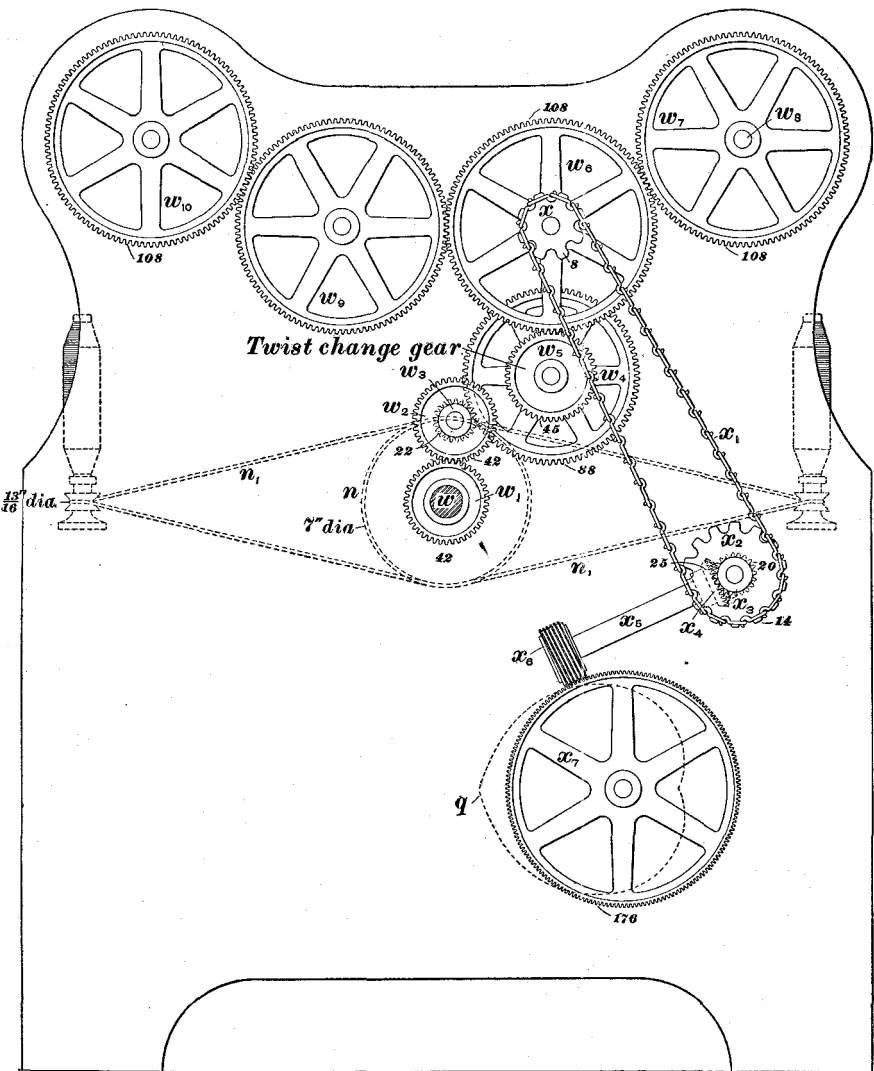
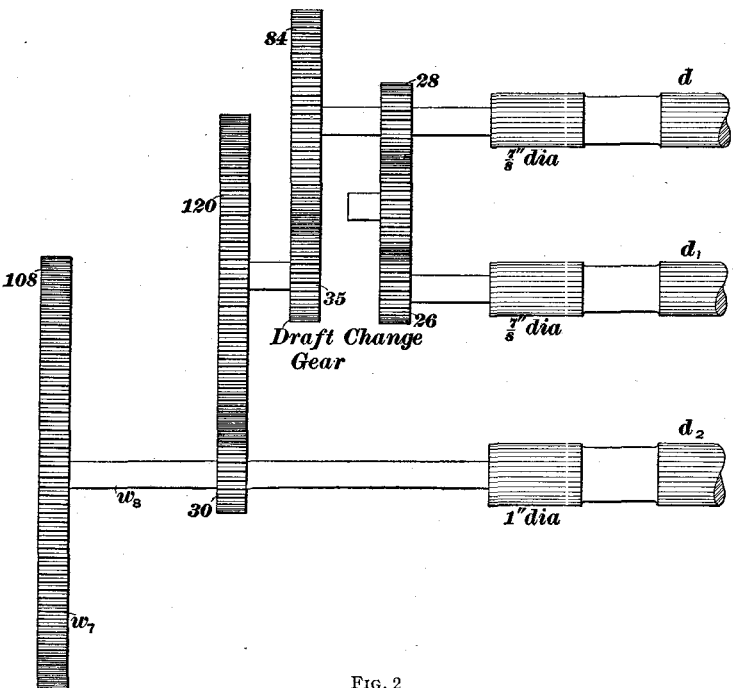

FIG. 1
FIG. 2
1. The driving of a spinning frame is accomplished through ordinary tight and loose pulleys that are mounted on the cylinder shaft w shown in Fig. 1, which also shows the gearing of a spinning frame. The loose pulley is usually made slightly smaller in diameter than the tight pulley, in order to relieve the strain on the belt when not driving the frame. To facilitate shifting the belt from one pulley to the other, the face of the tight pulley is beveled on the side next to the loose pulley. The shaft w also carries the cylinder n that drives the spindles through the bands n_1 . Situated at the driving end of the machine and mounted on the shaft w is the gear w_1 of 42 teeth driving the gear w_2 that is compounded with the gear w_3 ; this gear drives the gear w_4 compounded with the gear w_5 , which through the carrier w_6 drives the gear w_7 on the front roll shaft w_8 . Since on spinning frames there are two sets of drawing rolls, one on each side of the machine, it is necessary to introduce gearing that will drive the front roll shaft on the side of the frame opposite that where the shaft w_8 is located. This is accomplished by having the gear w_9 , in addition to meshing with w_7 , drive the
Referring to Fig. 2, the gear w_7 , also shown in Fig. 1, that is on the front roll shaft w_8 , imparts motion to the front
EXAMPLE 1.—Find the speed of the cylinder n , Fig. 1, when the driving shaft makes 400 revolutions per minute and carries a 30-inch pulley that drives a $10\frac{3}{4}$ -inch pulley on the cylinder shaft w .
EXAMPLE 2.—If the cylinder n , Fig. 1, makes 1,116.279 revolutions per minute, find the speed of the front roll shaft w_8 .
EXAMPLE 3.—If the cylinder n , Fig. 1, is 7 inches in diameter and makes 1,116.279 revolutions per minute, find the speed of the spindles if the whorl around which the band passes is $\frac{1}{8}$ inch in actual diameter.
EXAMPLE 1.—What is the twist per inch that is being placed in yarn spun on a frame geared as shown in Fig. 1 if the diameter of the front roll is 1 inch, the cylinder 7 inches, and the working diameter of the whorl $\frac{13}{16}$ inch?
EXAMPLE.—What is the constant for twist with the frame geared as shown in Fig. 1 if the diameter of the front roll is 1 inch, the cylinder 7 inches, and the working diameter of the whorl $\frac{13}{16}$ inch?